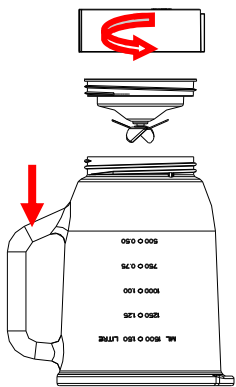

Fig.3
- 3.1 Invert the jar unit onto a level surface, holding the jar handle, put the the seal ring 2 and blade assembly onto the jar base bottom and secure the blade assembly by turning it anti-clockwise until tight (See Fig.3)